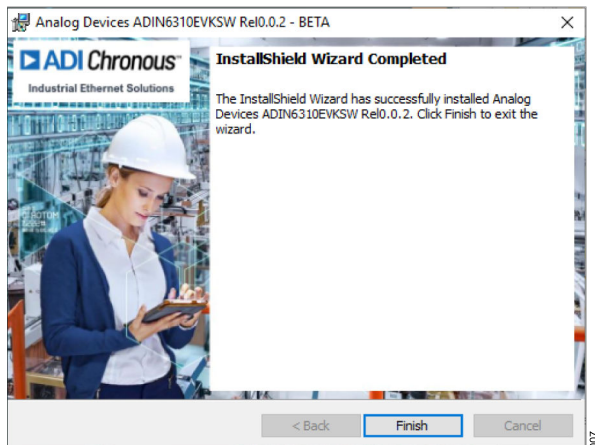

Figure 7. Installation Completes
8. A window appears, which shows the progress of the installation. When installation is complete, click **Finish**. (see Figure 7).